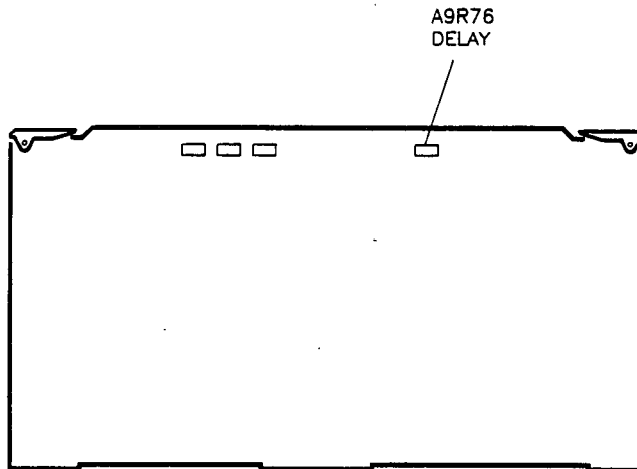

Figure 3-35. Pulse Delay Adjustment Location
6. Preset A9R76 (see figure 3-35) fully counter-clockwise.